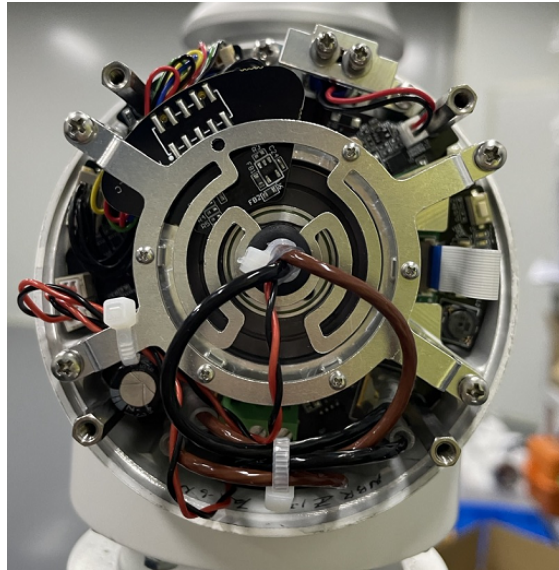

Figure 3-9 : Reconnect the wires
4. Reconnect the wires and tie them with nylon zip ties, as shown in **Figure 3-9** :